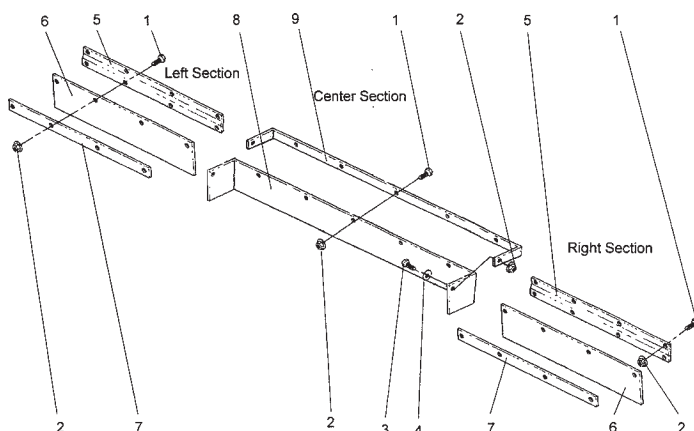

**FIGURE 14.** Front Rubber Deflector Attachment.
Attach the Center Front Deflector Brackets (8,9,10) to the Center Section with the bolts  $1/2" \times 1-1/4"$  (5), locknuts (4), and flatwashers (2). Fasten the Center Section Front Rubber Deflectors (11) (FIGURE 14) to these brackets with bolts  $3/8" \times 1"$  (1) locknuts (4) flatwashers (2), and woodwasher (3).